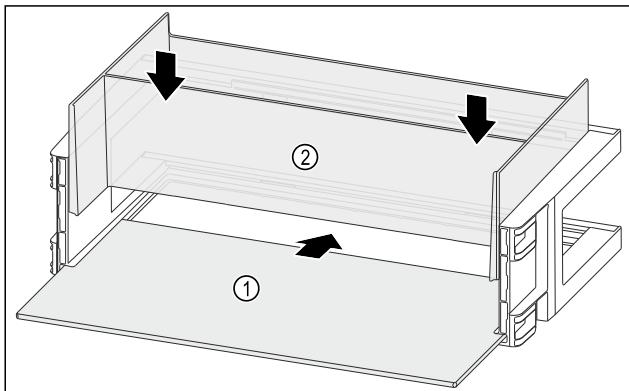

Fig. 126
- ▶ Push the shelf Fig. 126 (1) into the side recesses.
- ▶ Insert the organiser Fig. 126 (2).